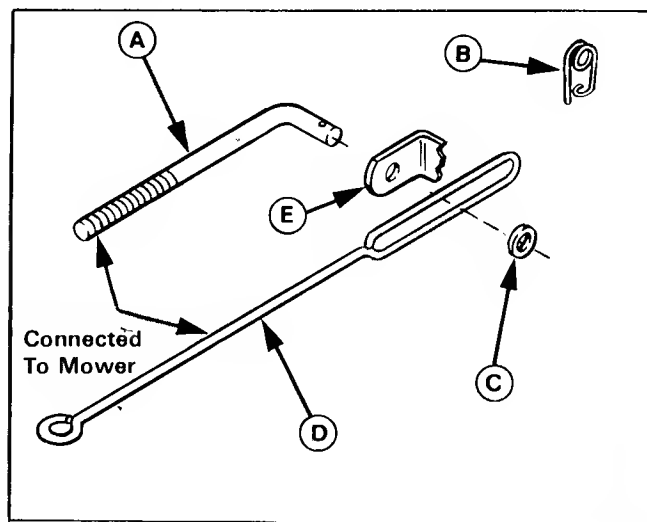

Figure 17.
4. Insert PTO rod (A, figure 17) through PTO arm (E) and brake rod (D) and install washer (C) and pin (B).